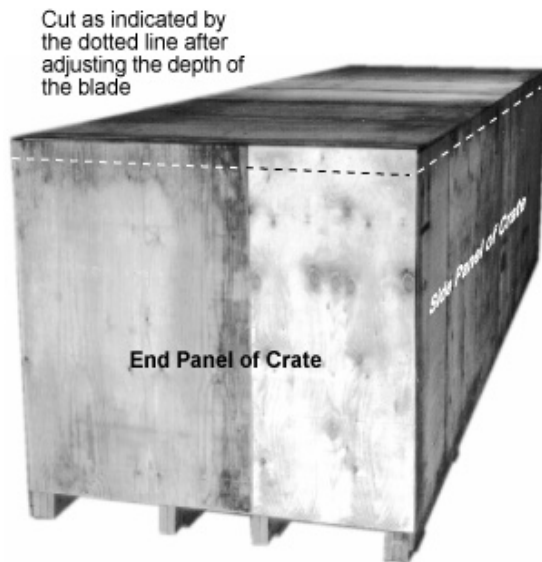

Figure 17: Location of Cutting Line
2. Using a circular saw with a rip cut blade, adjust the blade depth to approximately 2 cm ($\frac{3}{4}$ in.). Carefully cut one (1) end panel of the crate as illustrated by the dotted line in Figure 17, approximately 20 cm (8 in.) from the top of the crate. Repeat this step for the opposite end of the crate.
4. Cut along the length (long side) of one (1) side of the top edge of the crate as illustrated by the dotted line in Figure 17, approximately 20 cm (8 in.) from the top of the crate.